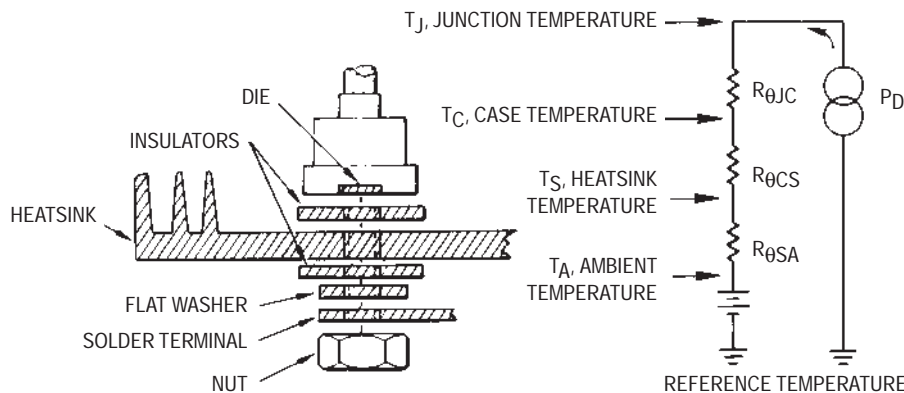

Figure A1. Basic Thermal Resistance Model Showing Thermal to Electrical Analogy for a Semiconductor
An analogy between Equation (2) and Ohm's Law is often made to form models of heat flow. Note that  $T$  could be thought of as a voltage thermal resistance corresponds to electrical resistance ( $R$ ); and, power ( $q$ ) is analogous to current ( $I$ ). This gives rise to a basic thermal resistance model for a semiconductor as indicated by Figure A1.